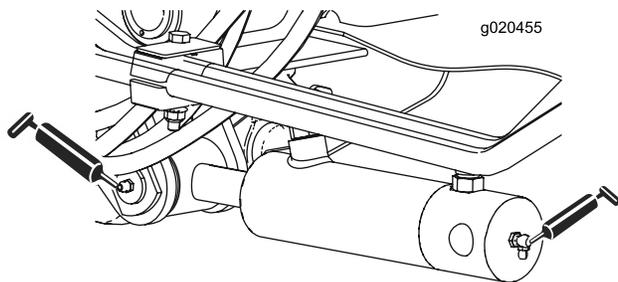

Figure 69
- 2 (each side) lift-arm-cylinder bushings (Figure 69)